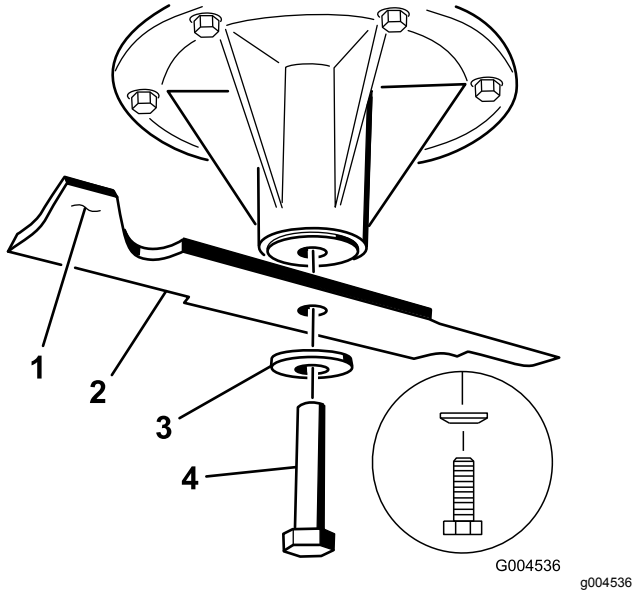

Figure 106
2. Remove the blade bolt, curved washer, and blade from the spindle shaft (Figure 106).
1. Install the blade onto the spindle shaft (Figure 106).
2. Install the curved washer and blade bolt (Figure 106).